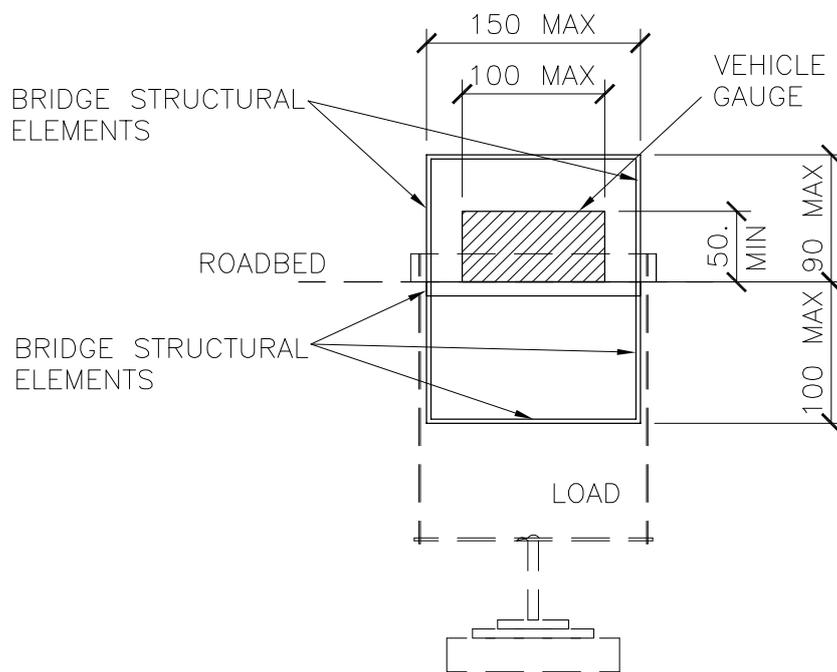

FIGURE 3
2. The width of the bridge is not to exceed 150 mm (See Figure 3)